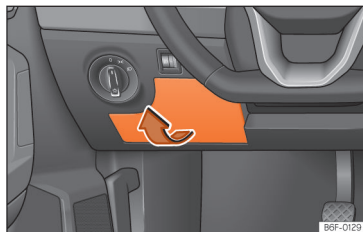

Fig. 158 On the dashboard on the driver side: lid of the fuse box.
- **Open:** remove the fuse box cover in the direction indicated »» Fig. 158.